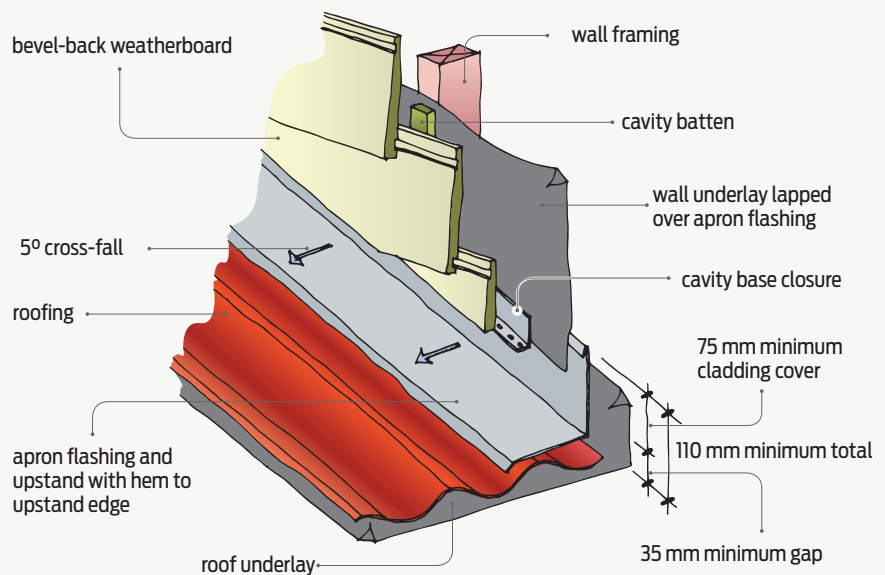

Figure 2 Apron flashing at roof/wall junction – parallel flashing.
- for profiled metal roofing (see Figure 2), extend over at least two crests – E2/AS1 Table 7 and Figures 47 and 48